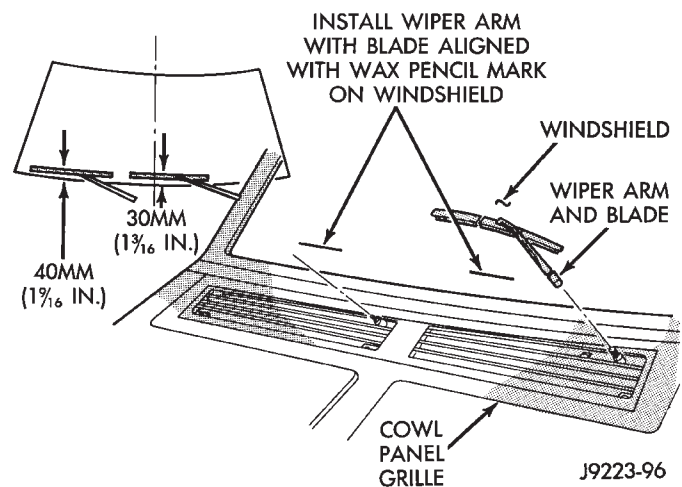
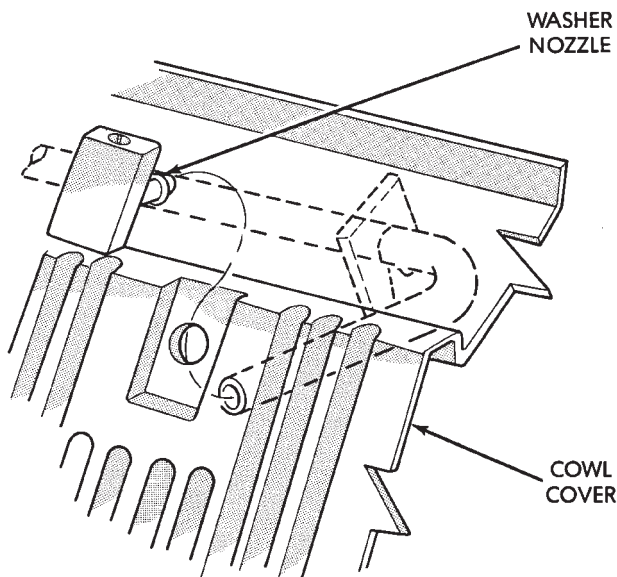

Fig. 16 Wiper Locations On Windshield
Fig. 18 Washer Fluid Tubes
- (1) Use a wax pencil to mark position of wiper arms (Fig. 16).
- (2) Remove windshield wiper arms from pivots (Fig. 16).
(4) Remove windshield washer tubes from nozzles (Fig. 18).
(1) Position cowl grille on cowl. Install windshield washer tubes on nozzles (Fig. 18).
(2) Install cowl grille retaining screws.
(3) Install windshield wiper arms on pivots with wipers aligned with wax pencil (Fig. 16).